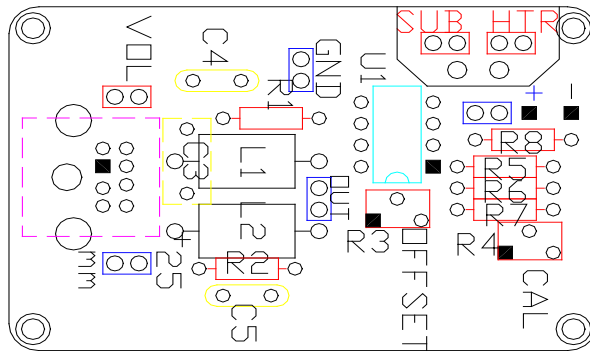

Figure 5. Calorimeter Circuit Board
- A. Remove the screws holding the calorimeter's ID tag and remove the plate to expose the circuit board as shown in Figure 5.
- E. Remove the screws holding the interface module's ID tag and remove the plate to expose the circuit board. Refer to Figure 5.
- A. Connect a DVM to the white jacks of the calorimeter. Refer to Figure 5.